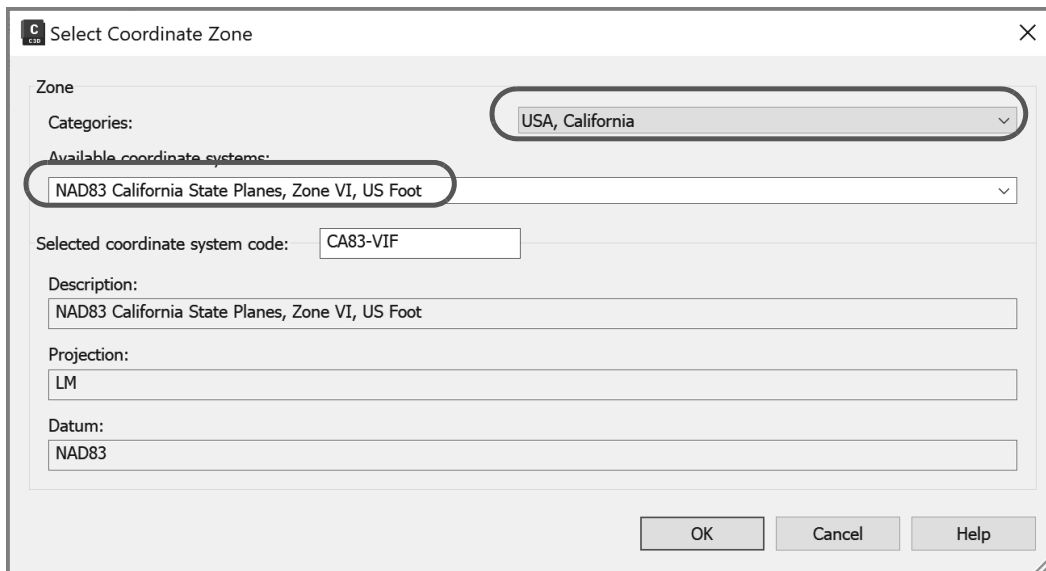

Figure 2–45
12. On the *Specify Data Sources* page, do the following, as shown in Figure 2–46: